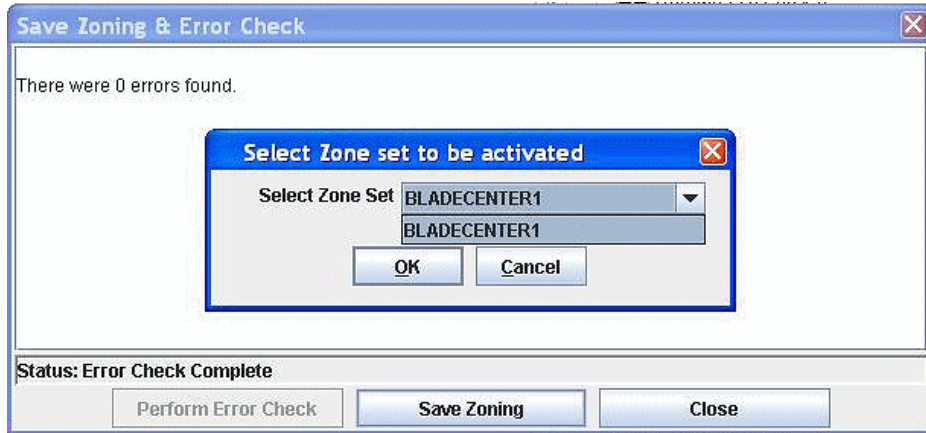

Figure 9-28 Select zone set to activate
14. Select **Yes** to activate your zone set(s) once the save is complete. You will see a window similar to Figure 9-28 on page 301.